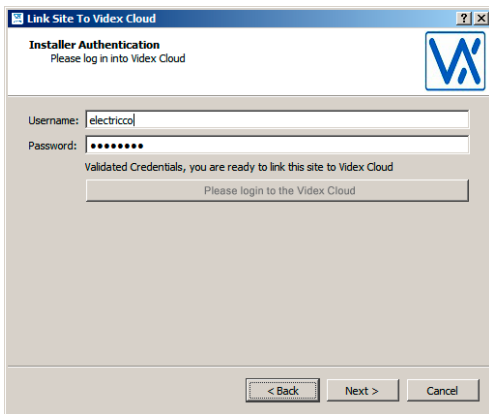

Fig. 38 Installer Authentication
- Once you receive the message "Valid Credentials..." (Fig. 38) click on the "next" button.